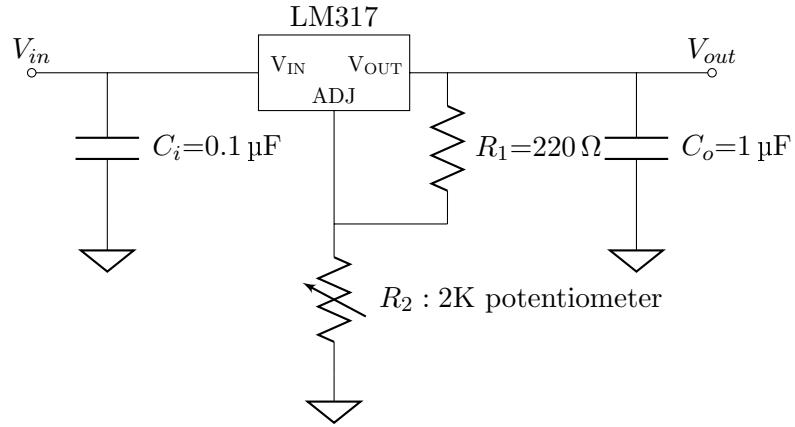
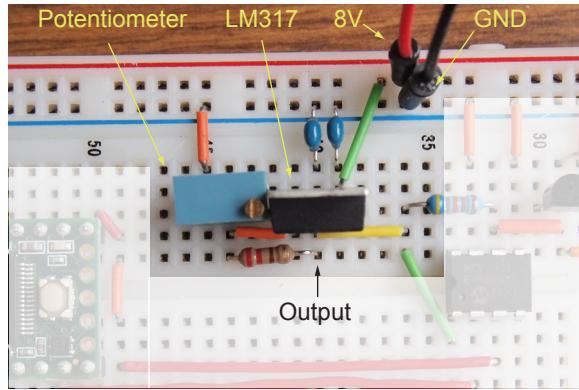

Figure 7: Schematic of the voltage regulator circuit using LM317.
Figure 8: An example breadboard layout of the circuit in Fig. 7.
1. Using Fig. 7 as a reference, build the regulator circuit on the breadboard. You should be able to find the LM317 pinout diagram from its datasheet, which you find from online. *As a general suggestion, it is important to keep your circuit well laid out and keep the connecting wires as short as possible. Cut the wires to the right length if necessary.* Fig. 8 shows an example breadboard layout for the LM317 regulator circuit in this lab.
Design a PCB incorporating the circuits of Fig. 7, 9, 12, and 14. We will add a resistive attenuator circuit just so that the output does not easily saturate. Fig. 18 shows a high level block diagram of the PCB.